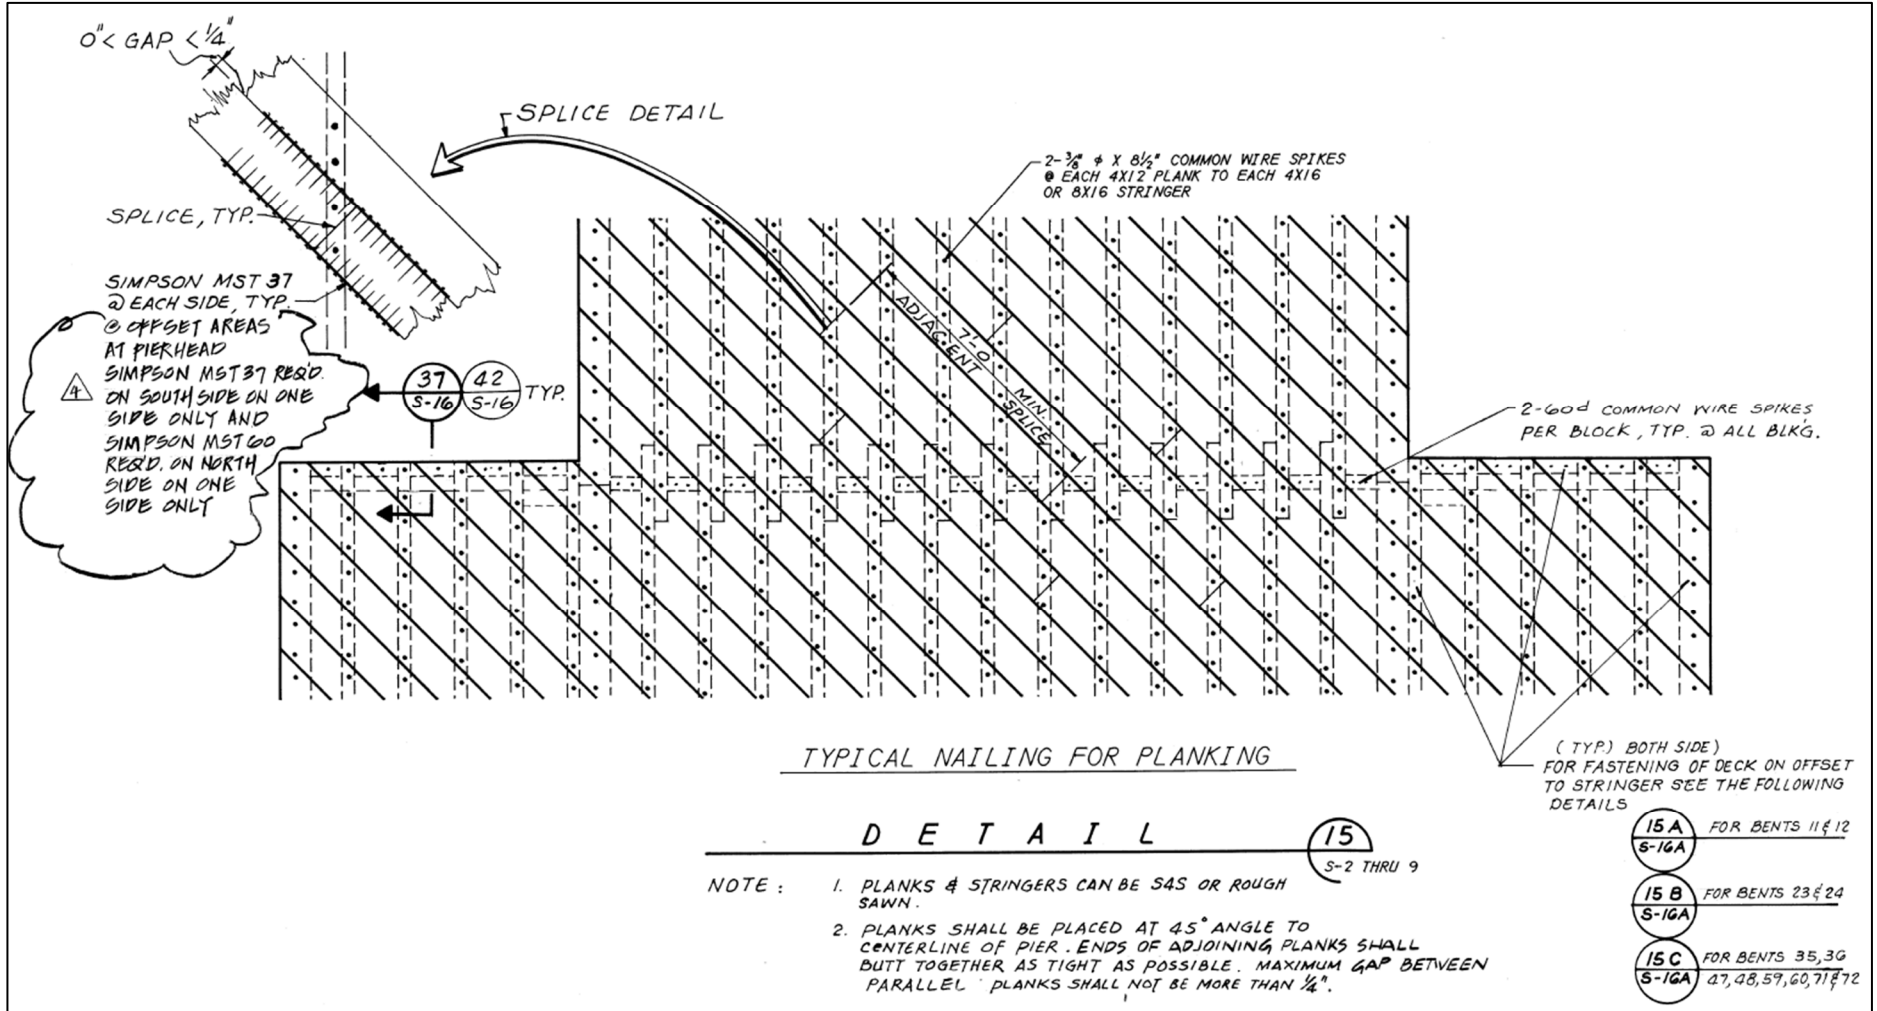

Figure A- 4. Existing Pier Nailing Detail, reference detail 15 on S-13. For fastening detail around popout see 37/S-16 and 15B/16-A.
5. *Provide Simpson splice strap stainless steel at every splice (Simpson MST 37 on both sides or approved equal), see Figure A- 4.*